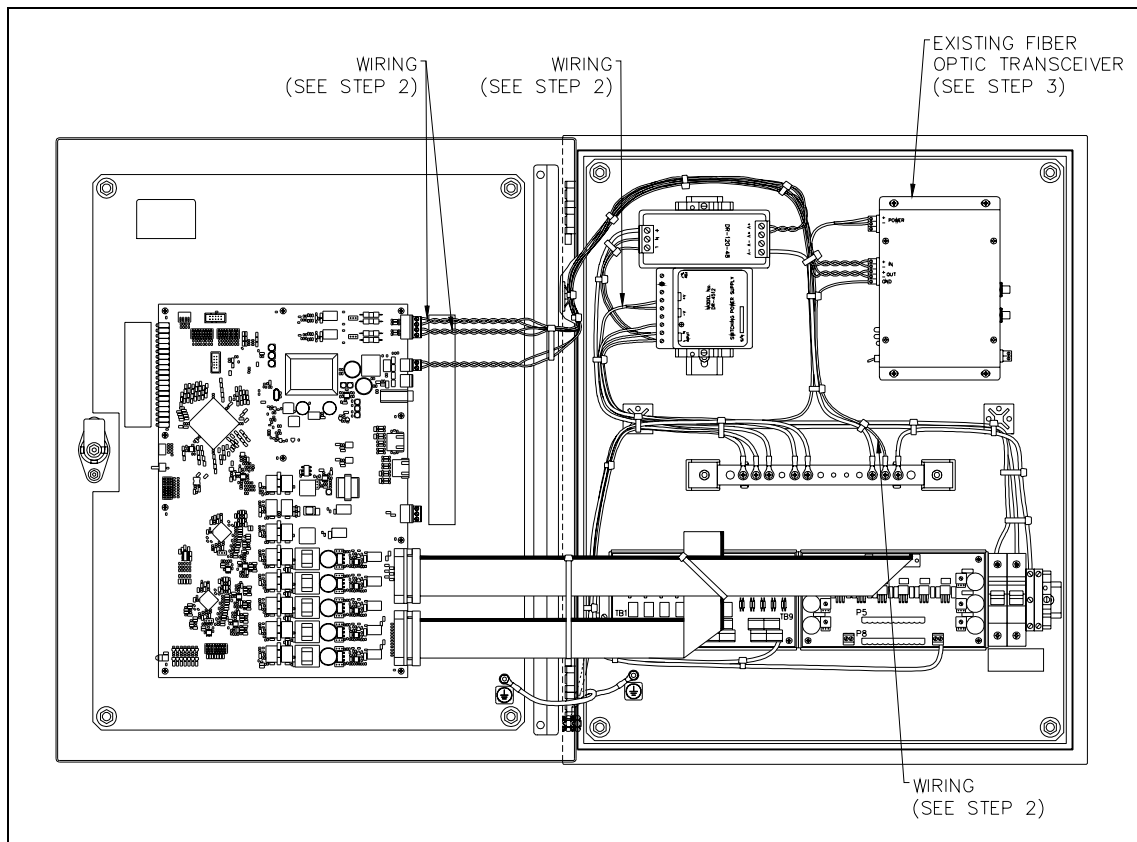

Figure 1.
2. Disconnect the power wiring that runs from the Fiber Optic Transceiver and 12 V dc power supply, and save for later use. Disconnect the data cable that runs from the Fiber Optic Transceiver to P19 on the Line Extender Main PCBA and discard. Remove the ground wire that runs from the Fiber Optic Transceiver to the grounding bar and discard. Refer to Figure 1.
3. Remove the four screws holding the Fiber Optic Transceiver to the rear mounting panel. Remove the Fiber Optic Transceiver from the enclosure and discard. See Figure 1.